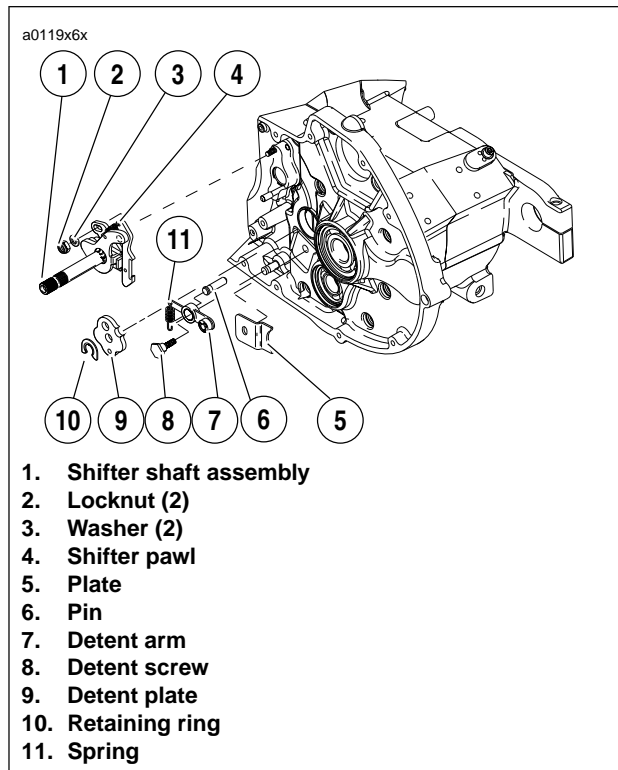

Figure 6-25. Shifter Shaft Assembly
9. See Figure 6-25. Detach spring (11) from groove in post.
10. Remove retaining ring (10) and detent plate (9). Discard retaining ring (10). You will need to use a **new** retaining ring for installation.
12. See Figure 6-25. Remove two locknuts (2) and washers (3) which attach shifter shaft assembly (1) to studs at transmission case. Remove shifter shaft assembly (1).
13. Remove detent screw (8), detent arm (7) and spring (11).